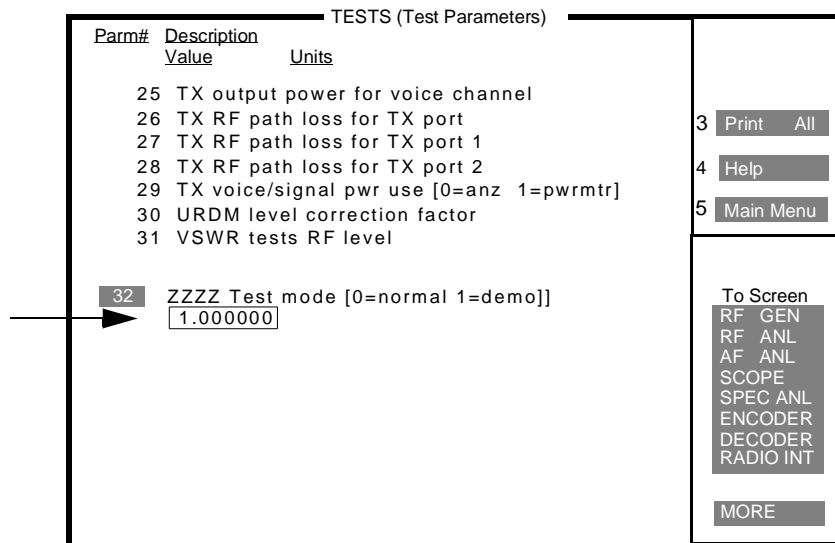

Figure 17
- 8 Using the techniques learned above, scroll to parameter 32, **ZZZ Test mode [0=normal 1=demo]**, and enter 1 for “demo” mode in the value field (see figure 17).